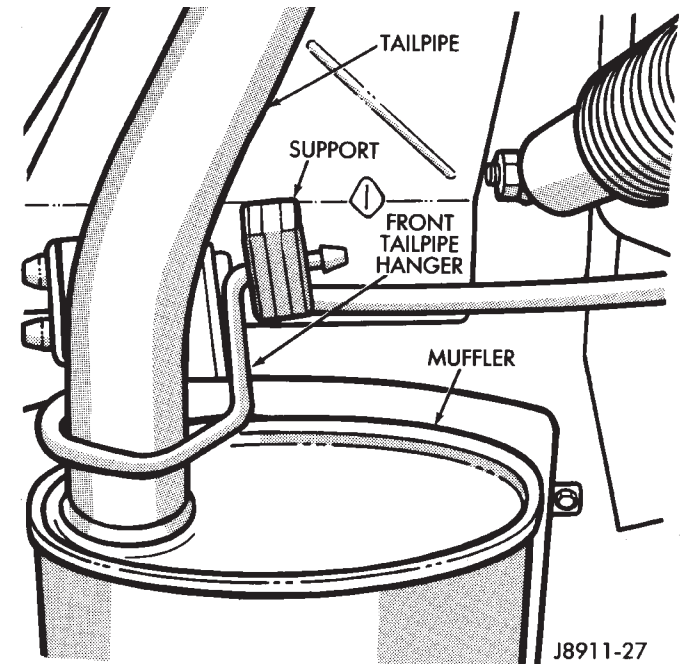

Fig. 10 Front Exhaust Tailpipe Hanger
- (4) Remove the exhaust tailpipe from the front exhaust tailpipe hanger (Fig. 10).
- (5) Heat the converter-to-muffler connection with an oxyacetylene torch until the metal becomes cherry red.
- (6) While the metal is still cherry red, place a block of wood against the front of the muffler and drive the muffler rearward to disengage.
- (7) Remove the exhaust tailpipe/muffler assembly.
- (8) Remove the exhaust tailpipe from the muffler: